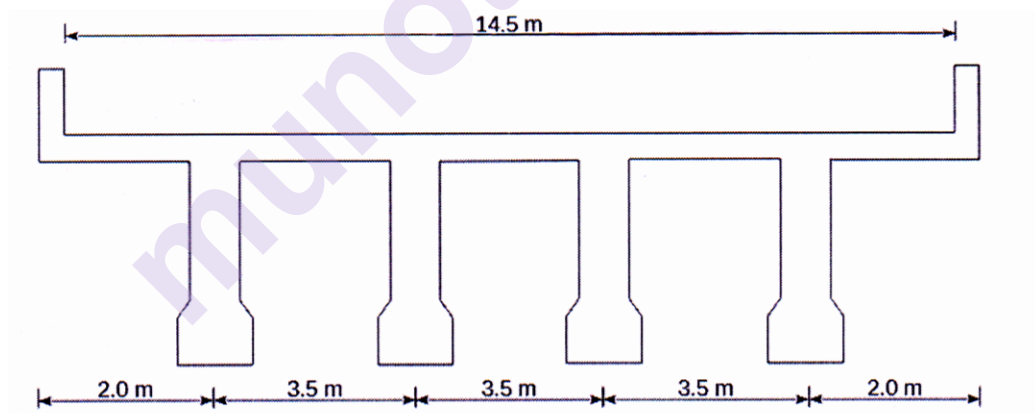

Fig.1
**Q1)** Design the intermediate prestressed post-tensioned concrete girder shown in Fig.1. [18]